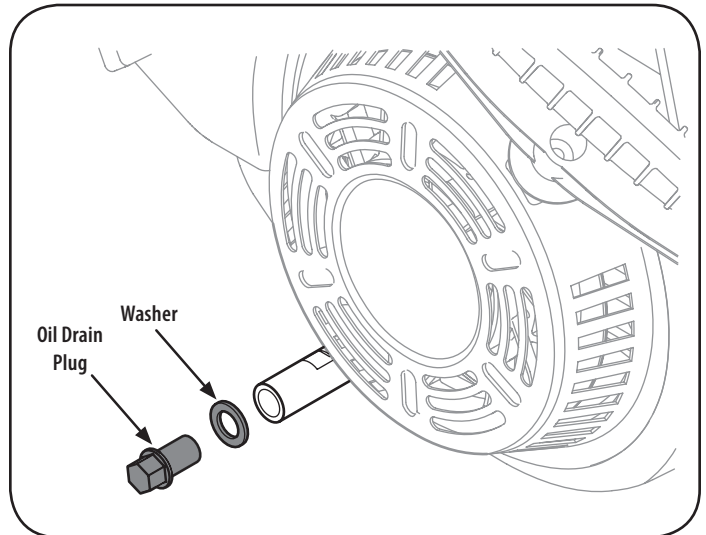

Figure 18
3. Remove oil drain plug and washer. See Figure 18 on next page.